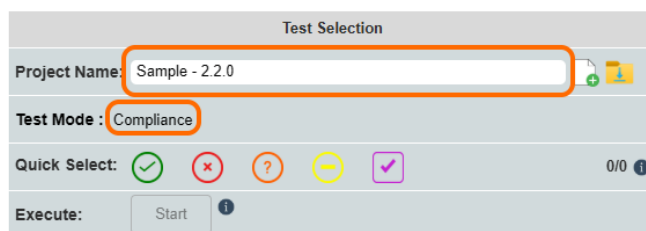

FIGURE 8.36: CREATE NEW PROJECT— #8
- The new project will be created with the provided Project Name and Test Mode as shown in the Figure 8.36 example below. The user can now proceed with the test configuration.